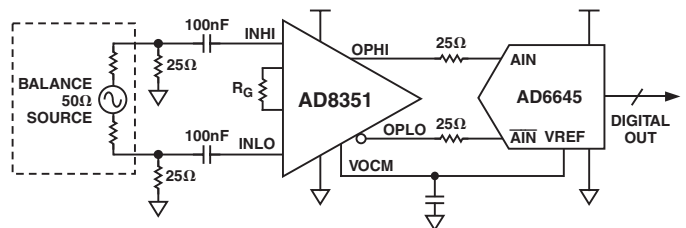

Figure 7. ADC Driving Application Using Differential Input
The circuit in Figure 7 represents a simplified front end of the AD8351 driving the AD6645 a 14-bit, 105 MSPS A/D converter. For optimum performance, the AD6645 and the AD8351 are driven differentially. The resistors R1 and R2 present a 50 Ω differential input impedance to the source with R3 and R4 providing isolation from the A/D input. The gain setting resistor for the AD8351 is  $R_G$ . The AD6645 presents a 1 kΩ differential load to the AD8351 and requires a 2.2 V p-p differential signal between AIN and  $\bar{A}IN$  for a full-scale output. This AD8351 circuit then provides the gain, isolation, and source matching for the AD6645. The AD8351 also provides a balanced input, not provided by the balun, to the AD6645, which is essential for second-order cancellation. The signal generator is bipolar, centered around ground. Connecting the VOCM pin (10) of the AD8351 to the VREF pin of the AD6645 sets the common-mode output voltage of the AD8351 at 2.4 V. This voltage is bypassed with a .1 μf capacitor. Increasing the gain of the AD8351 will increase the system noise and thus decrease the SNR but will not significantly affect the distortion. The circuit in Figure 7 can provide SFDR performance of better than -90 dbc with a 10 MHz input, and -80 dbc with a 70 MHz input at a gain of 10 dB.